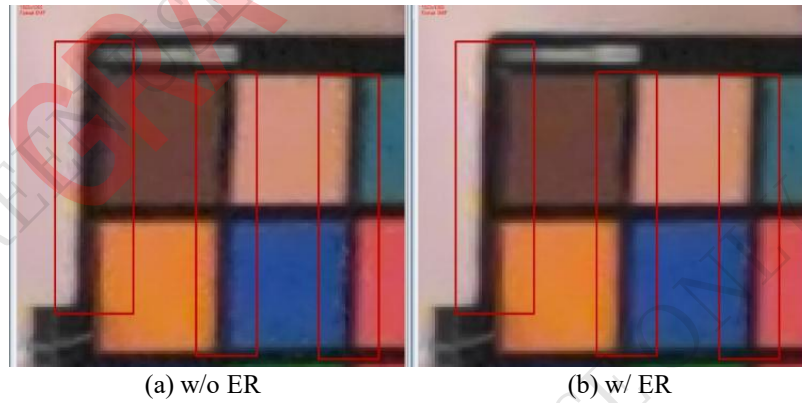

Fig 6.74 The effect of ER.
- Debug information: we provide five debug information for user, as Fig 6.74